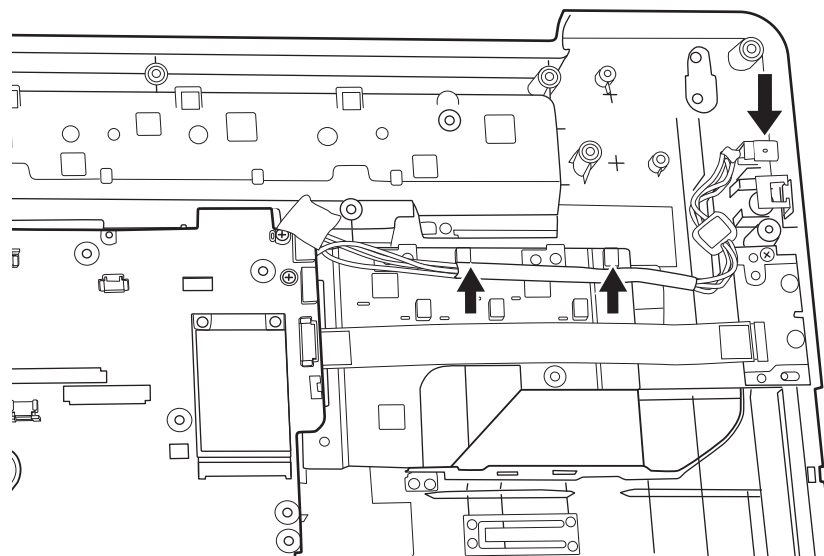

Figure 4.26 Installing the DC IN connector
4. Put the DC IN connector in the lower DC IN trough and route the cable from left to right under the ribs as shown in Figure 4.26.